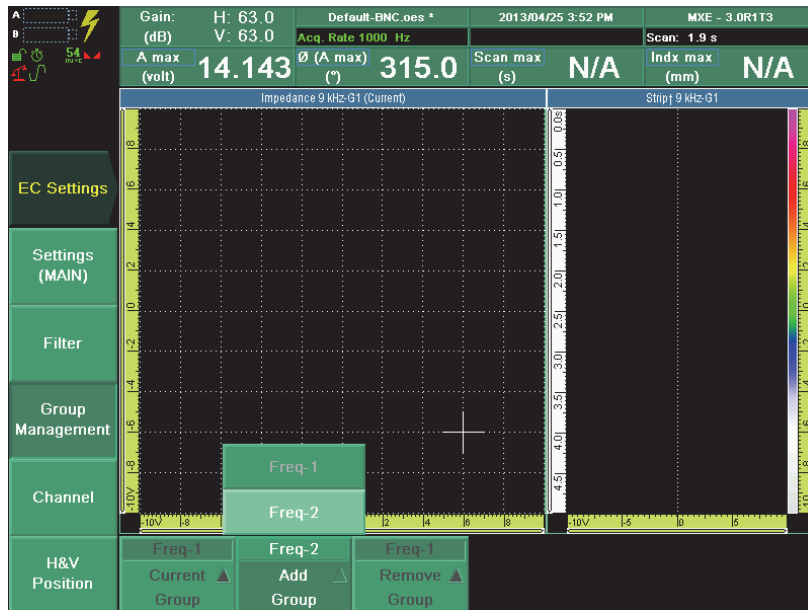

Figure 9-37 Setting the current group to frequency 2
1. Select **EC Settings > Group Management > Add Group = Freq-2**, and then press the Accept key to confirm (see Figure 9-37 on page 171).